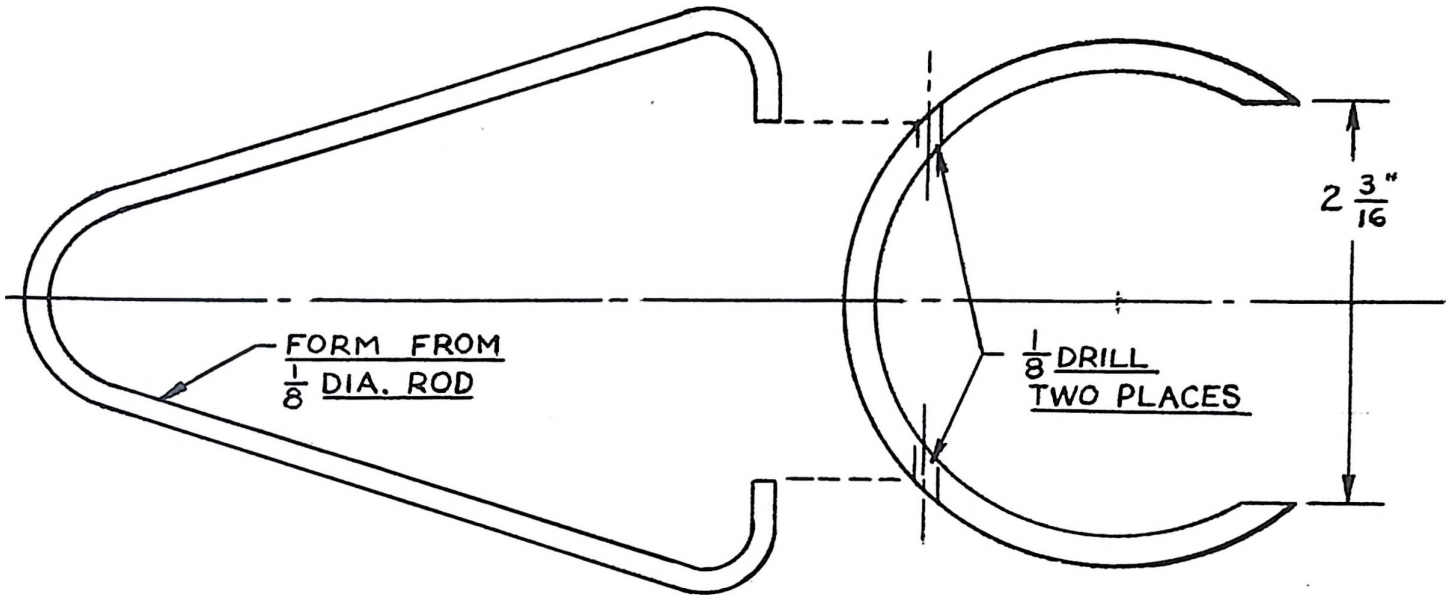

Figure 1
- (1) Install the differential with bearing cups and a .254" spacer on the left side into the carrier. Be sure the assembly is properly seated in carrier. Do not install bearing caps.
- (2) Select and install a spacer on the right side that will leave some end play.
- (3) To measure end play, use two sets of feeler gages. Push the differential to the left side of the carrier. Insert a feeler gage between spacer and casting on the right side above the centerline of the case (Figure 1). Then insert the same thickness feeler blades of another set of blades between the spacer and casting below the centerline of the case. When both feeler gages produce a hard drag feel, rotate the differential several times in each direction to seat the bearing rollers. When the rollers are seated it may be possible to insert thicker feeler blades. Add the feeler gage thickness to the right side spacer for correct side spacer thickness to give zero end play.
- (4) Measure drive gear backlash at zero end play condition and refer to chart on page 4 for proper space selections to give the required drive gear backlash and differential bearing preload.
By modifying standard spacers per Figure 1, a set of gages can be made by any service garage.
Revised step (2-3). To determine correct zero end play spacer thickness, insert split spacer gage described in Figure 1 until proper thickness has been determined. Rotate differential back and forth to seat bearing rollers while inserting spacer gage. Correct zero end play spacer thickness will be obtained when the next larger spacer cannot be inserted by hand. Do not drive in.